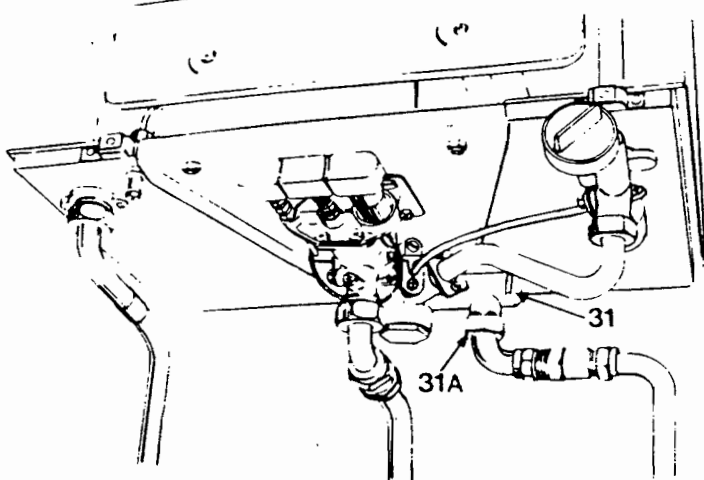

FIG. 9
Remove capping nut (31) Fig. 9. and withdraw the filter (Avon only).
Release union nut (31A) Fig. 9. and withdraw the filter (Medway and Mersey only).